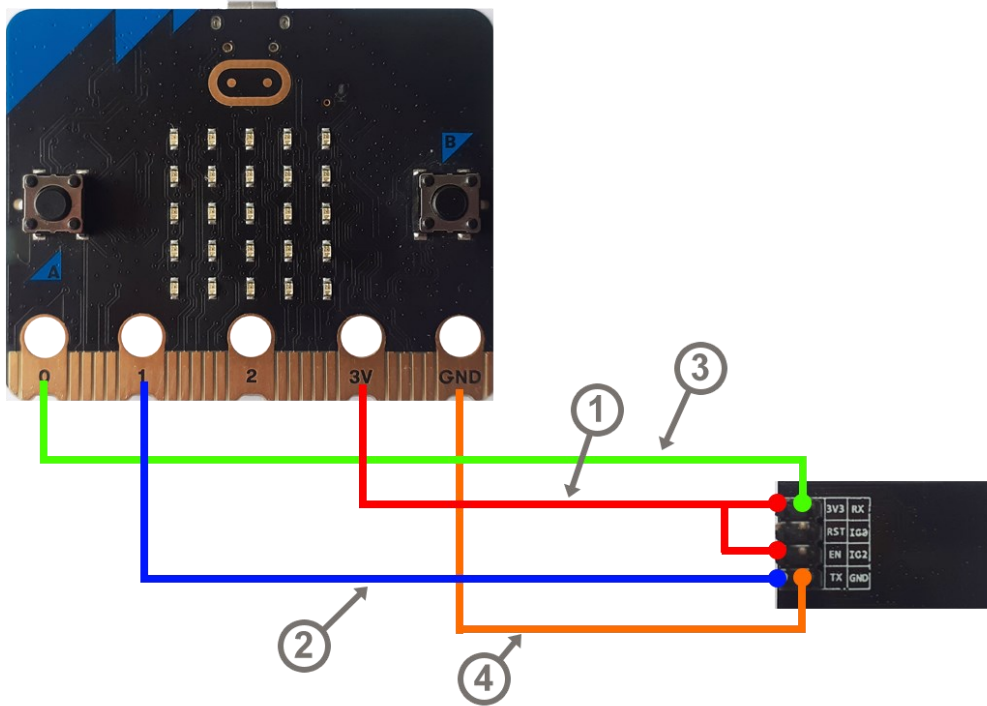

Figure 7: Connecting ESP8266 WiFi module to the BBC micro:bit microcontroller
Figure 7 presents how to connect ESP8266 Wi-Fi module to the BBC micro:bit microcontroller. The ESP8266 module has 8 different pins. You need to connect 5 of them to the micro:bit board. In particular, you need to connect the 3V3 and EN pins (1) to the power (3V), and the GND pin (4) to the GND pin of the micro:bit. Finally, connect the TX pin (2) and the RX pin (3) to pins P1 and P0 respectively. Once the circuit is complete, connect the microbit to your computer by using a USB cable.